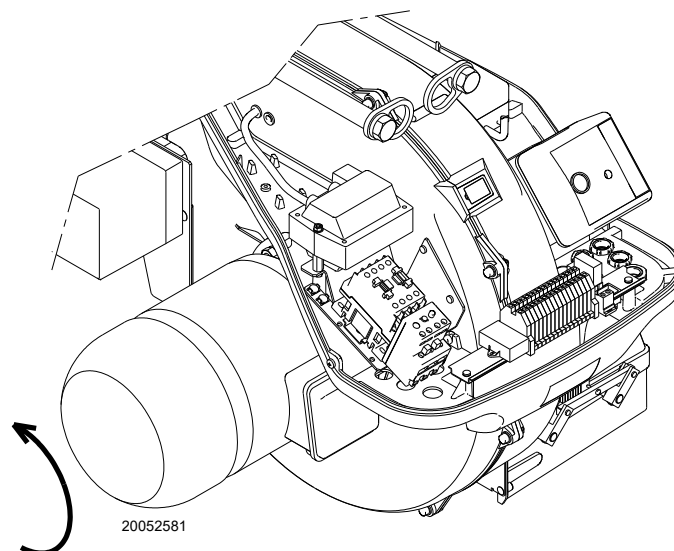

Fig. 28
- check the fan motor rotation direction, as shown in Fig. 28.